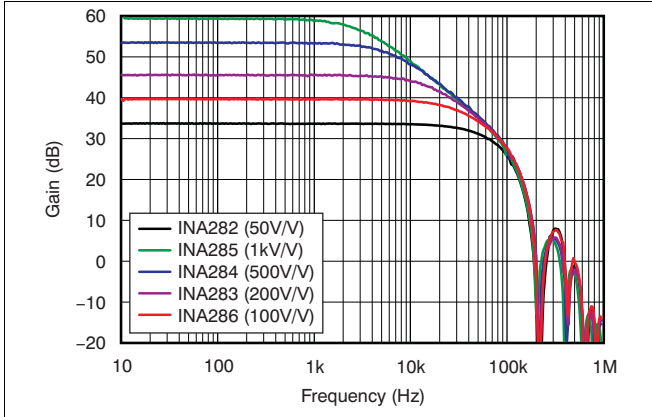
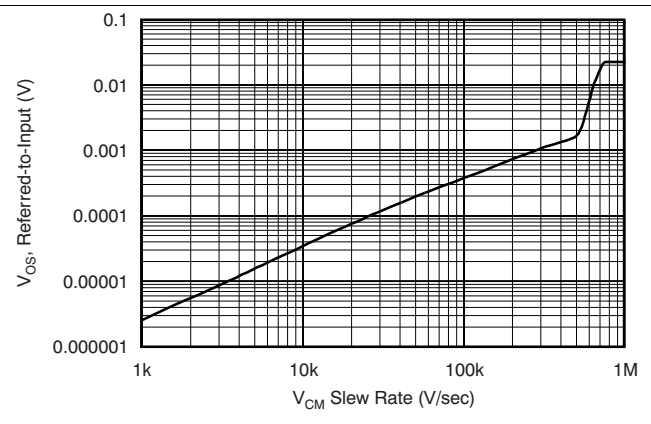

Figure 1. Gain vs Frequency
Figure 4. INA282 Common-Mode Slew Rate Induced Offset
(7) See typical characteristic graph Figure 1 and the *Effective Bandwidth* section.
The extremely high dc CMRR of the INA28x family results from the switched-capacitor input structure. Because of this architecture, the INA28x exhibits discrete time-system behaviors, as illustrated in the *Gain vs Frequency* curve of Figure 1 and the *Step Response* curves of Figure 21 through Figure 28. The response to a step input depends in part on the phase of the internal INA28x clock when the input step occurs. It is possible to overload the input amplifier with a rapid change in input common-mode voltage (see Figure 4). Errors as a result of common-mode voltage steps or overload situations typically disappear within 15 μ s after the disturbance is removed.